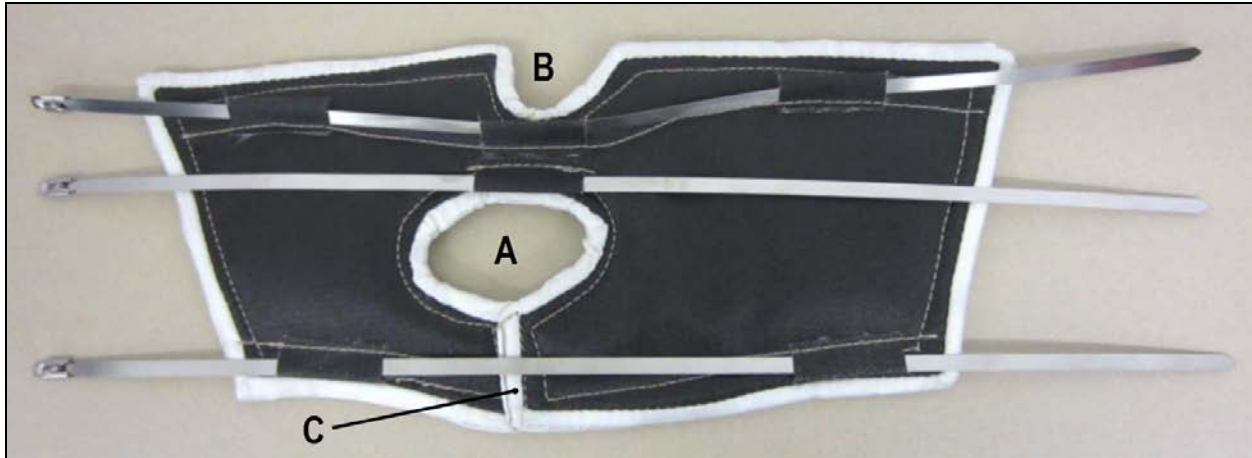

Figure 2
- 3) Install the #22595824 Insulating Wrap around the diffuser pipe passing the fuel nozzle through the slit (C) so it sticks out of the wrap opening (A) as shown in Figure 2 and 3 below (the notch in the insulating Wrap (B) goes toward the front of the vehicle).
Some early production wraps are sewn in a way that they don't have the slit shown in (C) Figure 2. To use these early production wraps, unsewn them with a sharp knife as shown in the images below.